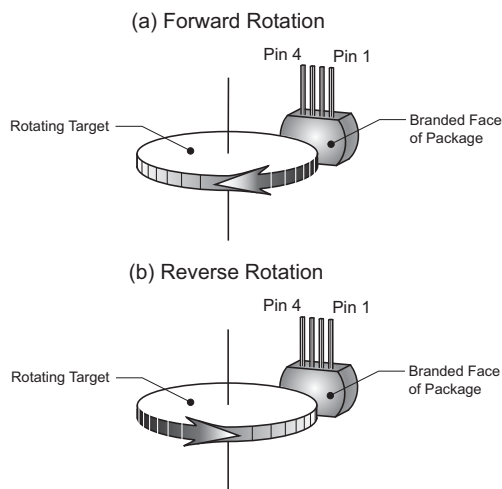

Figure 1. Target rotation
**Forward Rotation** (See panel *a* in figure 1) When the target is rotating such that a tooth near the package passes from pin 4 to pin 1, this is referred to as *forward* rotation. This is diagrammed below. Forward rotation is indicated on the output pin by a 45  $\mu$ s pulse width.
**Reverse Rotation** (See panel *b* in figure 1) When the target is rotating such that target teeth pass from pin 1 to pin 4, it is